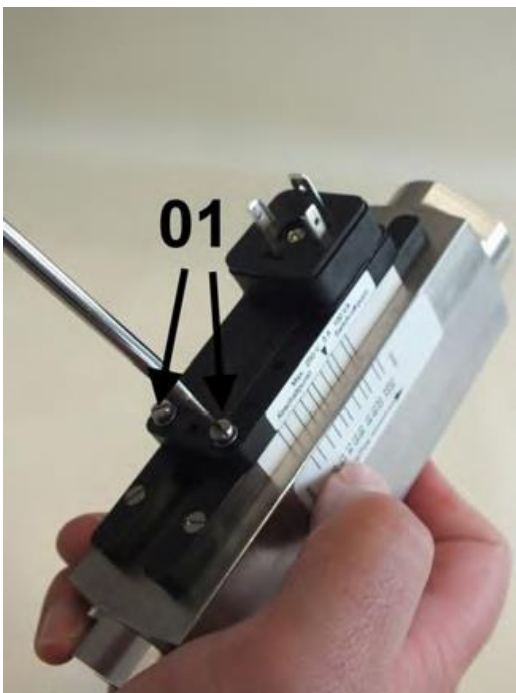

Fig. 61: Loosen set screws
3. ► Using a flat-bladed screwdriver (Fig. 61/01) loosen the set screws of the switch contact until it can move freely.
11. ▶ Retighten the set screws (Fig. 61/01) observing the proper tightening torque of the screws (↪ Chapter 11.1 "Tightening torque" on page 79)